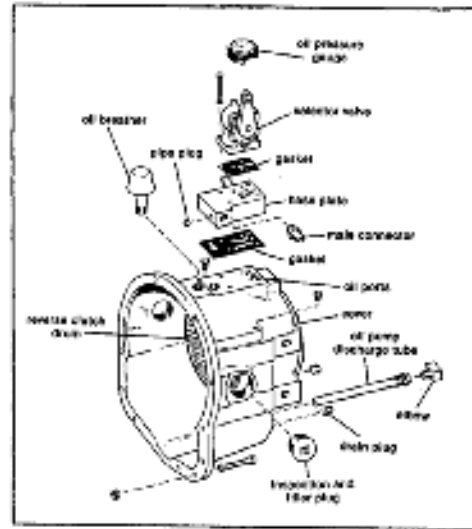

Figure 30. Housing and Related Parts.
1. (Refer to figure 30) Remove oil breather, oil pump discharge tube, and oil filter. Flush clean with solvent or diesel fuel. Blow dry with compressed air.